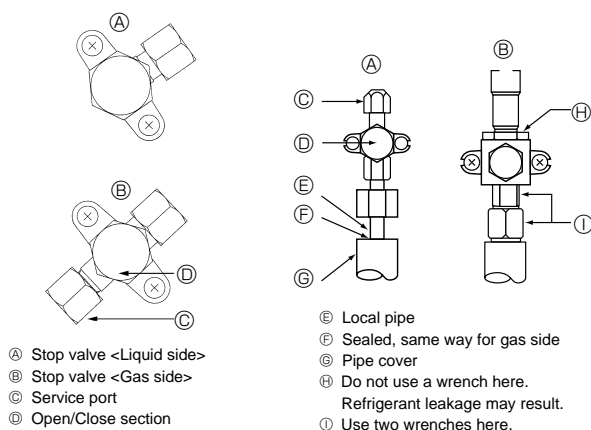

Fig. 4-4
4.4. Refrigerant pipe airtight testing method (Fig.4-4)
- If the pressure decreases in steps (2) or (3), there is a gas leak. Look for the source of the gas leak.